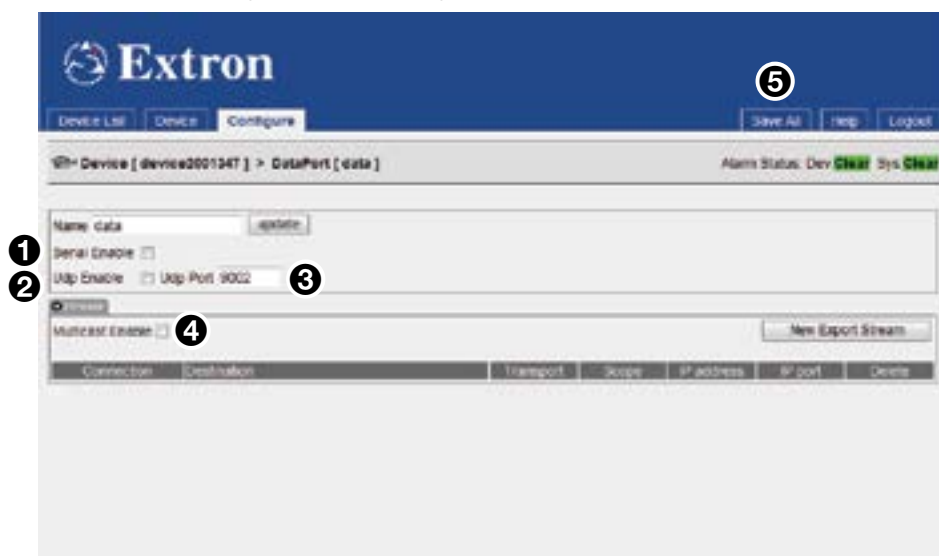

Figure 55. Configure Tab (Data Options)
3. If required, check the **Serial Enable** box (see figure 55, ①).
4. If required, check the **Udp Enable** box (②).
5. If required, enter a value for the **Udp port** number (③).
6. If RTP multicast source streaming is required, select the **Multicast Enable** box (see figure 55, 4 on the previous page). If RTP unicast is required, ensure the box is not selected.